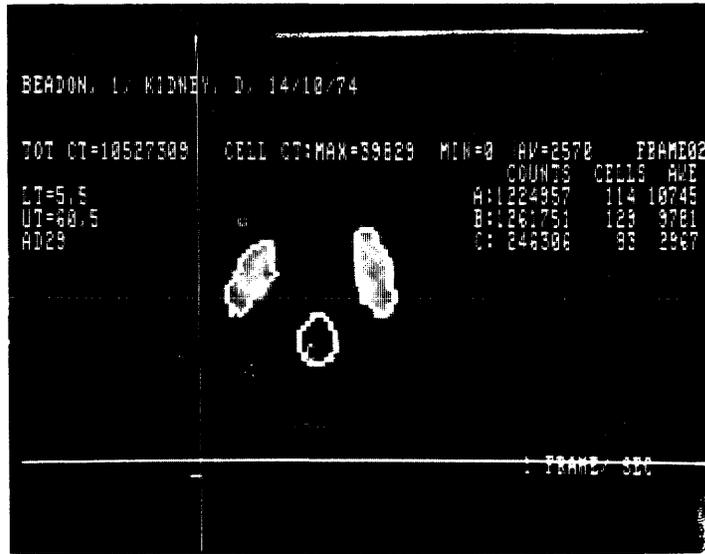

FIGURE 24. ROIs over the left and right kidneys, and a background ROI
Renal studies can be analyzed within the curve analysis program in BASIC/RT-11. The user should define 3 regions of interest. The first two regions are over the left and right kidneys and the third ROI is an area representing the background. Normally, the background ROI is chosen in a small area between the left and right kidneys (Figure 24). The curves are calculated and stored in a GAMMA-11 save area.
- 2) display an image of the kidneys and enter irregular region of interest (IR).
- 3) mark irregular regions over the two kidneys and a third region representing the background (Figure 24).